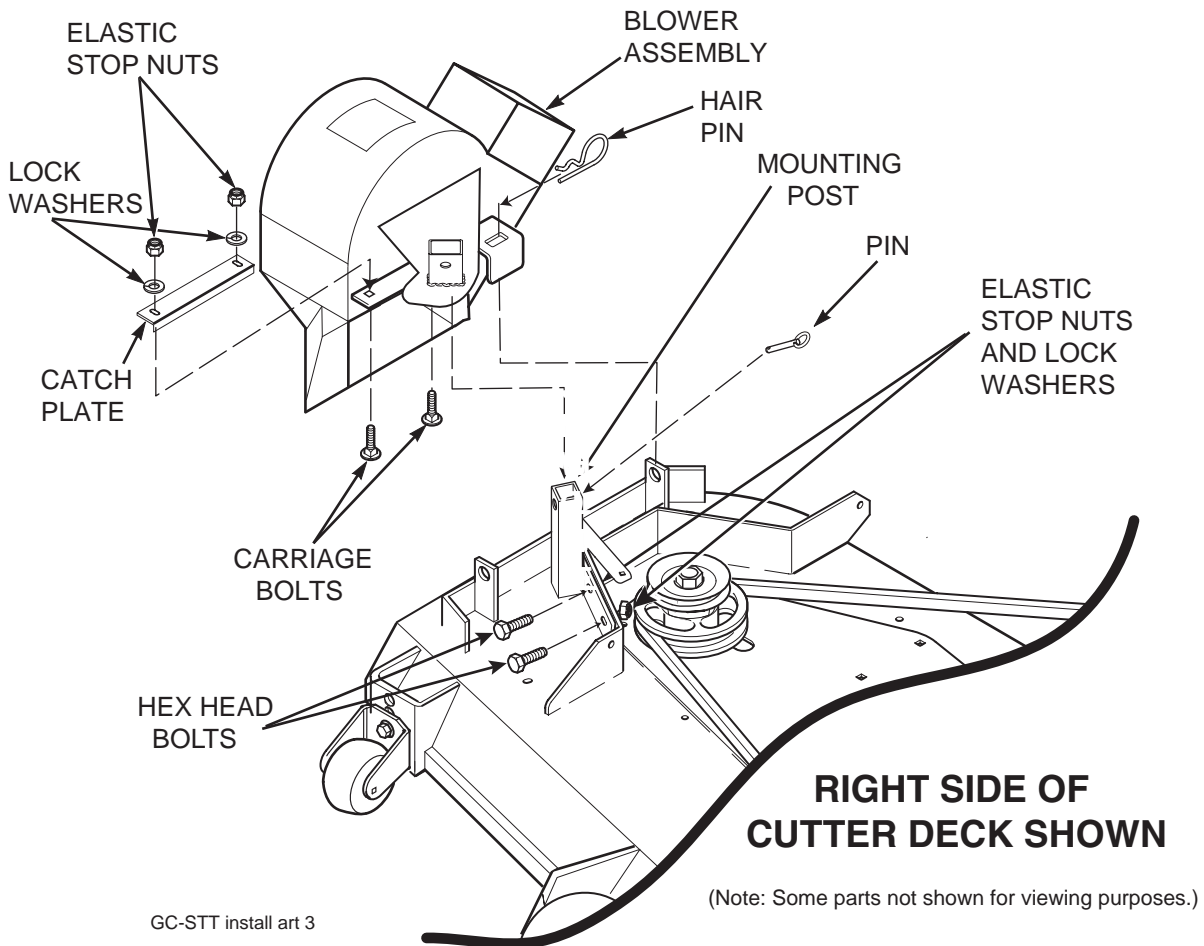

FIGURE 4-4
7. Install the catch plate (p/n 423297) to the blower assembly using 3/8-16 x 1-1/4" carriage bolts (p/n 04003-11) facing upward. See Figure 4-4, Page 8. Secure with 3/8" spring lockwashers (p/n 04030-04) and 3/8-16 elastic stop nuts (p/n 04021-09). Do not fully tighten the hardware.
8. Install the blower assembly to the mounting bracket and secure with the mounting pin and large hair pin. See Figure 4-4, Page 8.